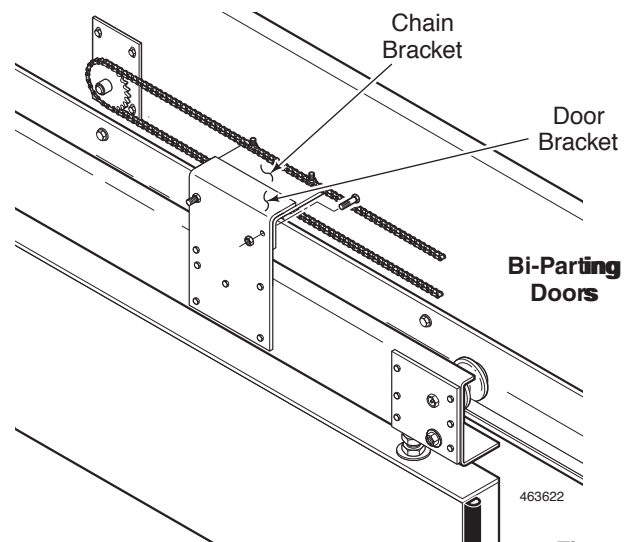

Figure 19
4. **For bi-parting doors**, the Slave Leaf is bolted directly to the chain. Slide the Door Bracket into alignment with the Chain Bracket and fasten with the capscrews provided. See *Figure 19*.